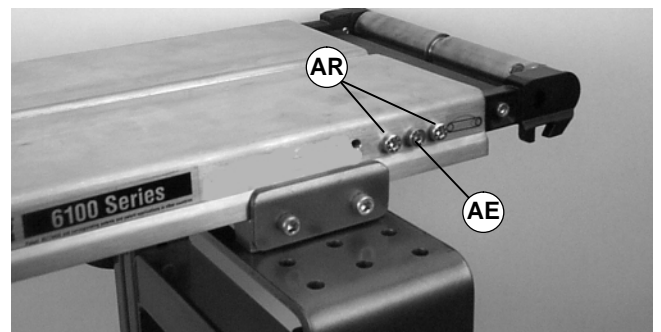

Figure 31
1. Remove screw (AE of Figure 31).
2. Remove four (4) tail plate mounting screws (AR of Figures 31 & 32).